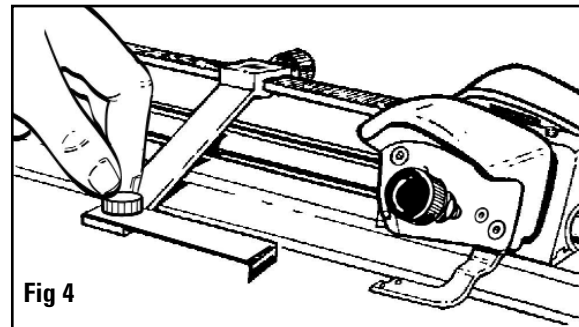

Fig 4
4. Holding the blade holder as shown in Fig 4, pull the cutting head directly towards yourself until the mat board is completely cut.
6. Rotate the bevel blade holder down completely to seat the blade into the mat. **TIP:** Hold the cutting head firmly enough to not allow it to "creep forward" when first inserting the blade which will produce an overcut. **Fig 4**
6. Slide the cutting head into position in front of the top edge of the mat board. As the movable stop approaches the edge of the mat board, press down on the stop foot with your left index finger until it gently makes contact with the top edge of the mat. **Fig 4**
Tighten knob to lock leg into position. **Fig. 4**